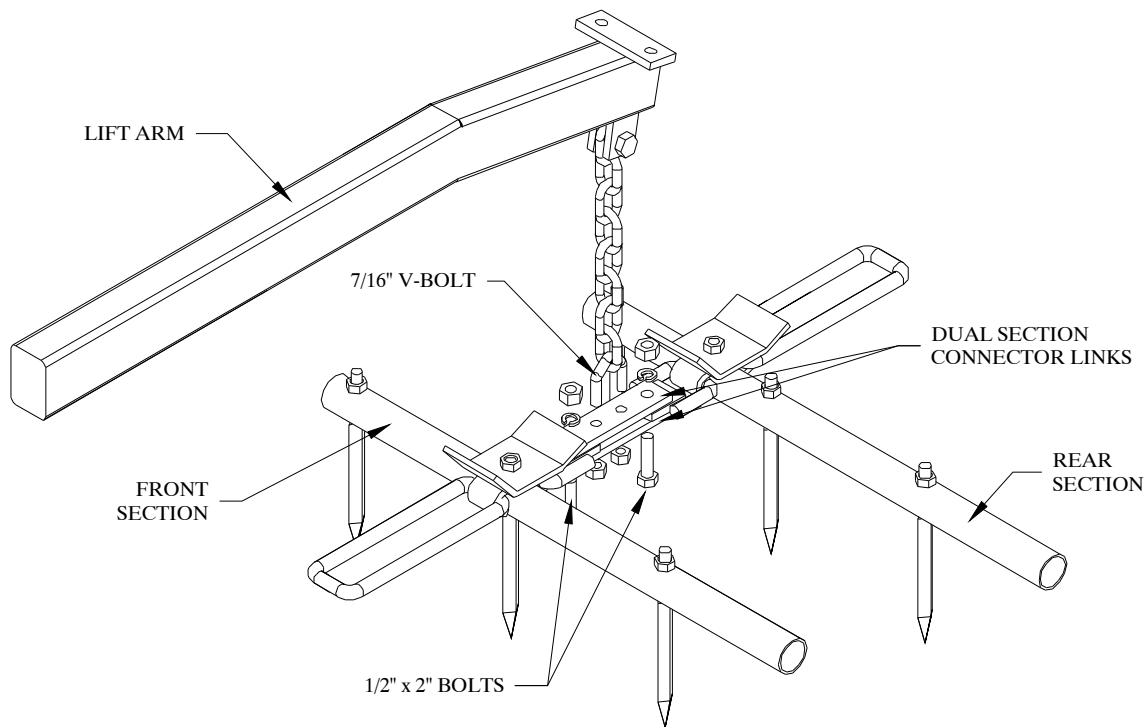

Figure 18
2. Bolt the front and rear harrow sections together using two 5/16" x 1 ½" x 6" dual section connector links at each pull tab. Refer to Figure 18. Use two ½" x 2" bolts, lock washers, and hex nuts. Do *not* tighten yet.